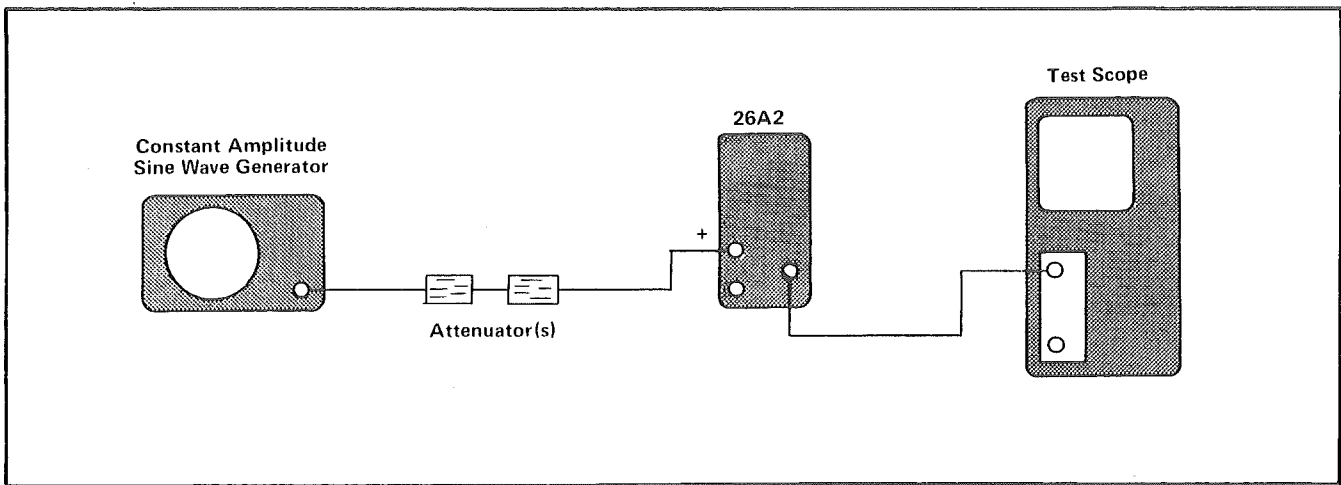

Fig. 5-2. Equipment setup for step 2.
- a. Set up the test equipment as illustrated in Fig. 5-2.